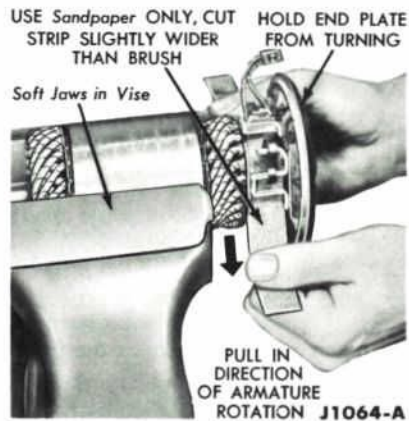

FIG. 53—Starter Brush Seating
8. Make sure that the new brushes slide freely in the holders, then seat the new brushes by sanding (Fig. 53).
5. Make sure that the new brushes slide freely in the holders, then seat the new brushes by sanding (Fig. 53).